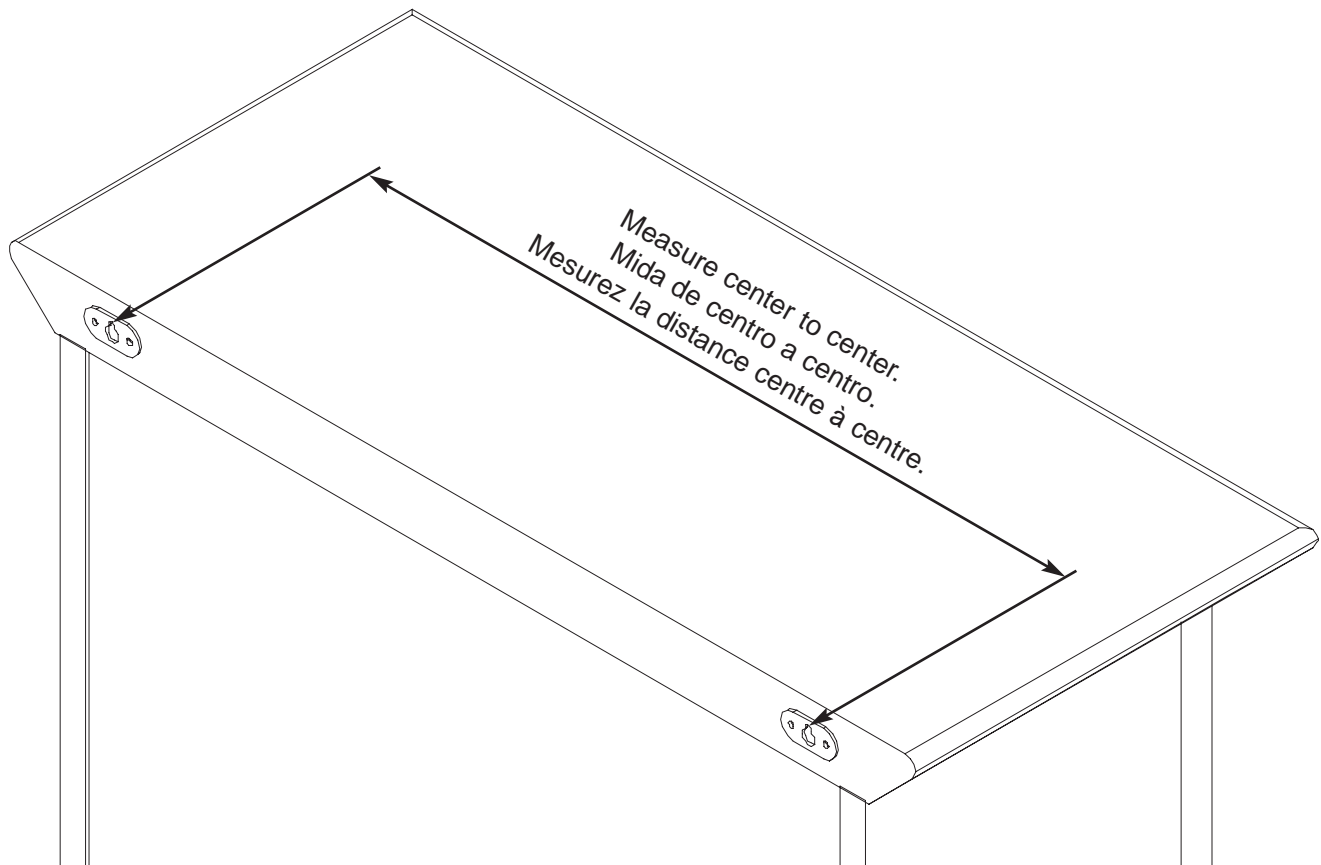

Figure 1
1. Measure from center to center of mounting brackets on back of cabinet. See Figure 1 on page 2.
1. Mesurez la distance entre le centre des supports de montage au dos du placard. Voir la figure 1, page 2.